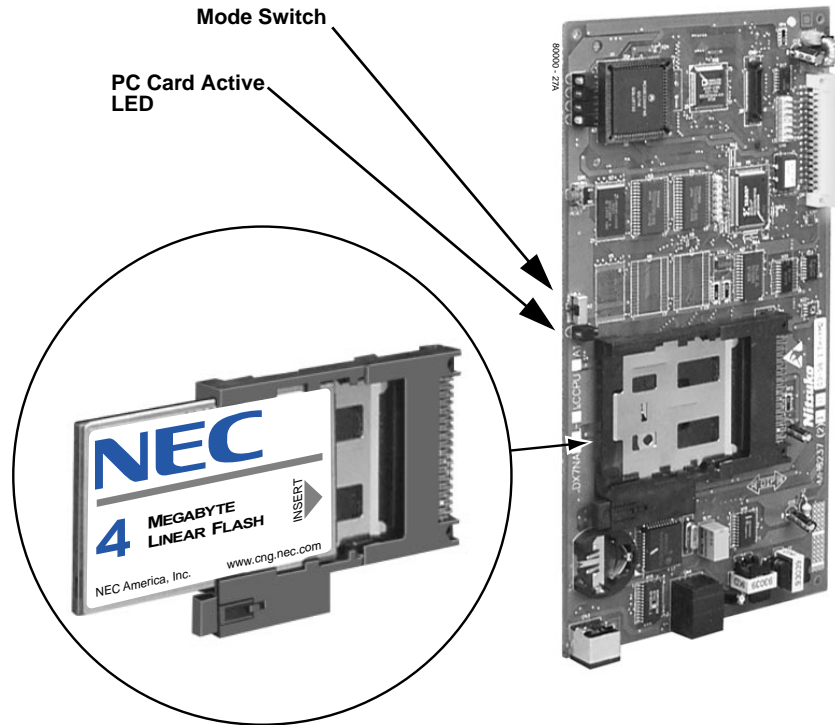

Figure 5-1: Using the PC Card
To use the PC Card to back up site data (Figure 5-1):
2. Insert the PC Card into the CPU (see Figure 5-1 *Using the PC Card* on page 5-3).